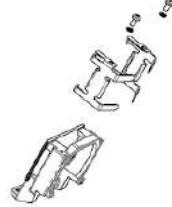

Figure 5-10
- Fetch M3×8 bolts and elastic washer with a cross screwdriver and take down the elastic washer clamping the lamp (see Figure 5-10);